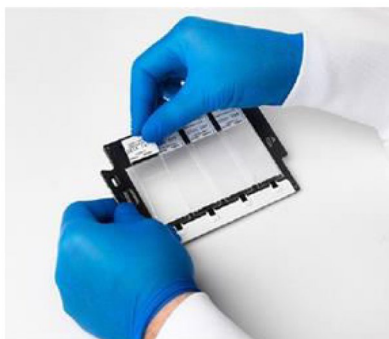

Figure 3.1. Loading a slide into a Slide Carrier.
3. Gently push the opposite end of the slide into the preferred Slide Position until the slide is up against the Spring-Loaded Tab. (See Figure 3.1.)